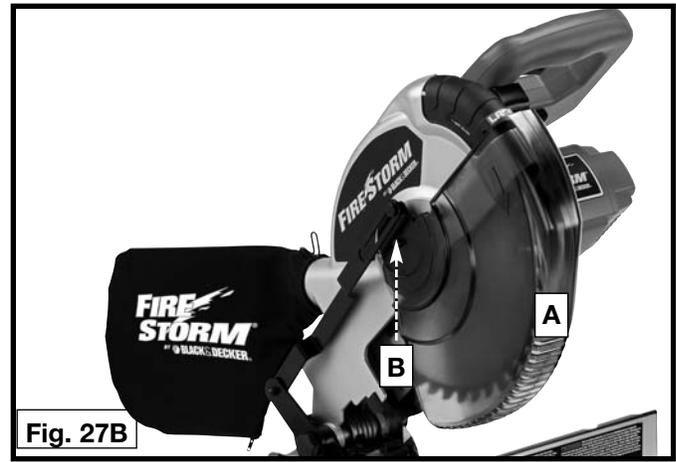

Fig. 27B
This machine incorporates a blade guard (A) Fig. 27B to cover the rear section of the blade. After an extended period of use, the movable lower blade guard may not operate smoothly when the cuttinghead is lowered. This can be corrected by adjusting nut (B) until the lower blade guard moves freely.